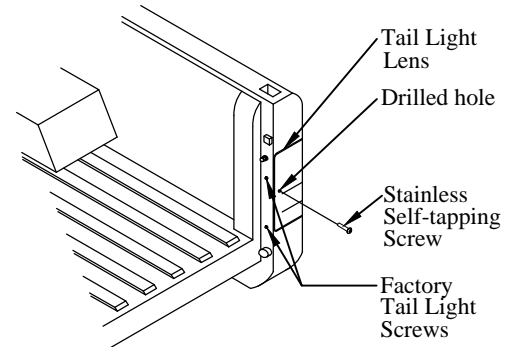

Figure 7: Tail light modification detail.
1. **Remove** the two (2) factory tail light screws from each tail light lens (Figure 7).
2. Carefully **Drill** a 9/64" hole through each tail light lens and internal sheet metal (Figure 7).
3. Carefully **Drill** a 3/16" hole through each tail light lens only, for screw clearance (Figure 7).